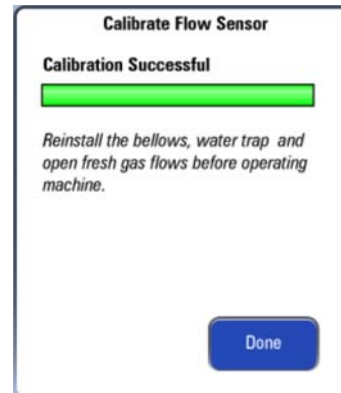

FIGURE 7-3 Flow Sensor Calibration Successful
11. Select **Done** to close the **Calibration** window (see FIGURE 7-3).